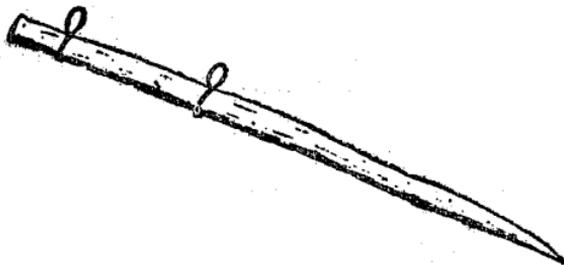

FIG. 125.—Improvised rocket firing device.
**Firing stands for rockets.**—The method of using this device is evident on seeing it. A fixed limb, graduated in degrees, gives the inclination of the tube guide when the pivot is vertical. The best angle is  $50^{\circ}$ . The tube guide is 4.9 ft. long; the rocket stick should enter its entire length and the rocket is turned underneath the stick. A firing stand can be improvised by arranging two collars of strong wire on any sort of a stake of sufficient length, (Fig. 125.) Rockets can even be discharged by simply sticking the rocket stick in the soft ground at a slight